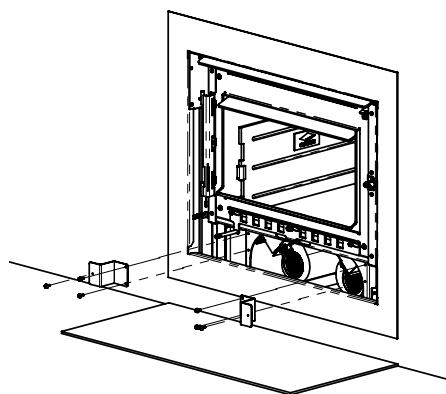

Figure 14
- Fit the fill panel mounts using tek-screws supplied, as per figure 14.
- **Note:** If the fan controls have been left in the pedestal base on the freestanding side of the installation, remove the switches fitted to the fill panel and fit the blanking panel as per figure 14.